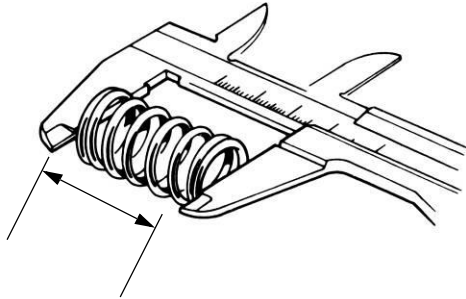

Figure 4-15: Measure Valve Spring Free Length
1. See Figure 4-15. Use a caliper and measure the valve spring free length